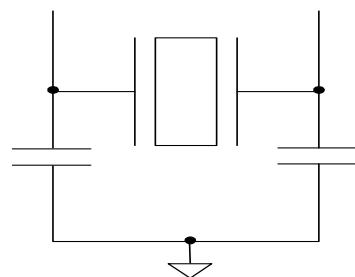

Figure 2. Crystal Capacitive Clarification
Crystal loading plays a critical role in achieving low ppm performance. To realize low ppm performance, the total capacitance the crystal will see must be considered to calculate the appropriate capacitive loading (CL). Figure 2 shows a typical crystal